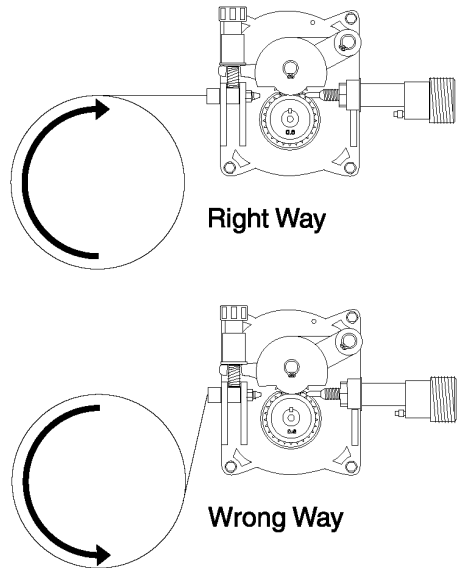

Figure 7. Wire Spool Installation
6. Place the spool on the spindle in such a manner that when the wire comes off the spool, it will look like the top illustration in Figure 7. The welding wire should always come off the top of the spool into the drive mechanism.